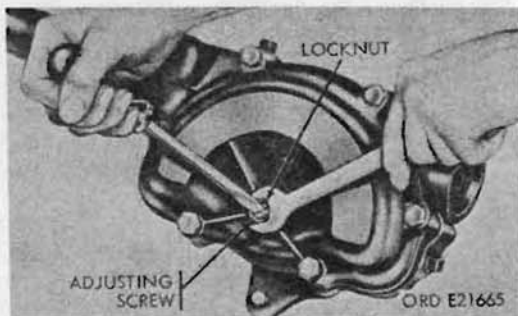
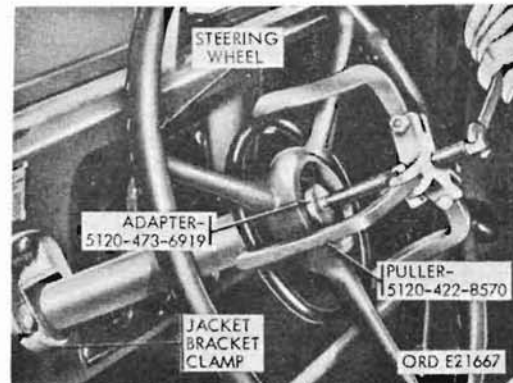

Figure 221. Steering gear backlash adjustment.
Figure 223. Removing steering wheel with puller
c. Steering Wheel (Fig. 223). A three-spoke wheel is mounted on the end of the steering gearshaft and secured by a hex-nut. The horn button is mounted in the center of the wheel. Replacement of the horn button is covered in paragraph 135.
- (1) Disconnect the drag link from the pitman arm (par. 201). Loosen the steering jacket bracket clamp (fig. 223) on the instrument panel. Loosen the locknut on the backlash adjusting screw (fig. 221) and loosen the screw.
- (2) Grip the steering wheel lightly with thumb and forefinger and turn the wheel. The steering wheel should turn freely with just a perceptible drag. If no resistance is evident, the housing upper cover shims must be removed.
- (3) To remove the shims, disconnect the horn cable near the lower end of the steering gear. Remove four screws holding the steering gear housing upper cover to the gear housing.
With jacket bracket clamp (fig. 223) on the instrument panel loosened, pull the upper cover and steering gear jacket away from the gear housing to expose the adjusting shims. The shims are of 0.002-inch, 0.003-inch, and 0.010-inch thickness. Clip and remove a thin shim, assemble the jacket and housing, and test wheel (2) above). Repeat the process until the proper
- (4) Tighten the jacket bracket clamp on the instrument panel (fig. 223).
- (5) Adjust the backlash (b below).
- (6) Connect the drag link (par. 201).
b. Backlash Adjustment (Fig. 221).
- (1) Disconnect the drag link (par. 201) from the pitman arm.
- (2) Turn the steering wheel clockwise as far as possible, then rotate the wheel counterclockwise as far as possible and count the number of turns. Turn the wheel one-half total number of turns. The steering gear is now in midposition.
- (3) Loosen the locknut and turn the adjusting screw until a slight drag is felt at this midposition when turning the steering wheel slowly from one extreme position to another.
- (1) Remove the horn button (par. 135) and the horn cable from the steering wheel and the column.
- (2) Remove the steering wheel nut, holding the wheel on the steering gearshaft.
- (3) Place the steering wheel puller adapter 5120-473-6919 (fig. 223) on the end of the steering gearshaft. Install the steering wheel puller with hooks engaging puller ring, and pull the wheel from shaft.